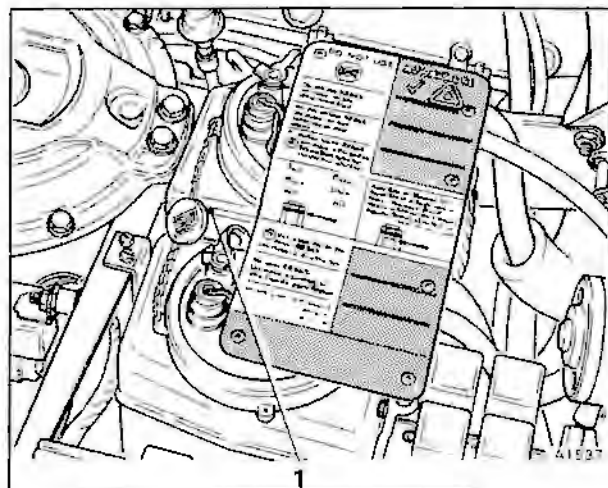

Fig. G7-6 Hydraulic reservoirs tamperproofing
16. Fit a new tamperproofing wire and seal between the reservoirs (see fig. G7-6).